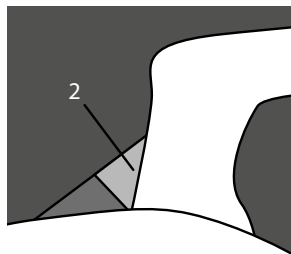

Fig 1.
2. If a green indicator is visible (on the handle), then the AKS 3004 is in a new condition or the pads and towball are within the permissible limits (Fig 1 - Item 2).